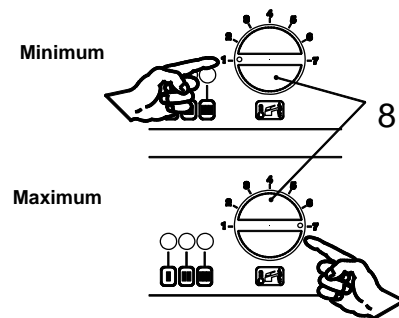

Figure 5.7
- The temperature of the domestic hot water (d.h.w.) leaving the boiler can be varied from 100 °F to a maximum of about 140 °F (Figure 5.7), by turning the knob 8.